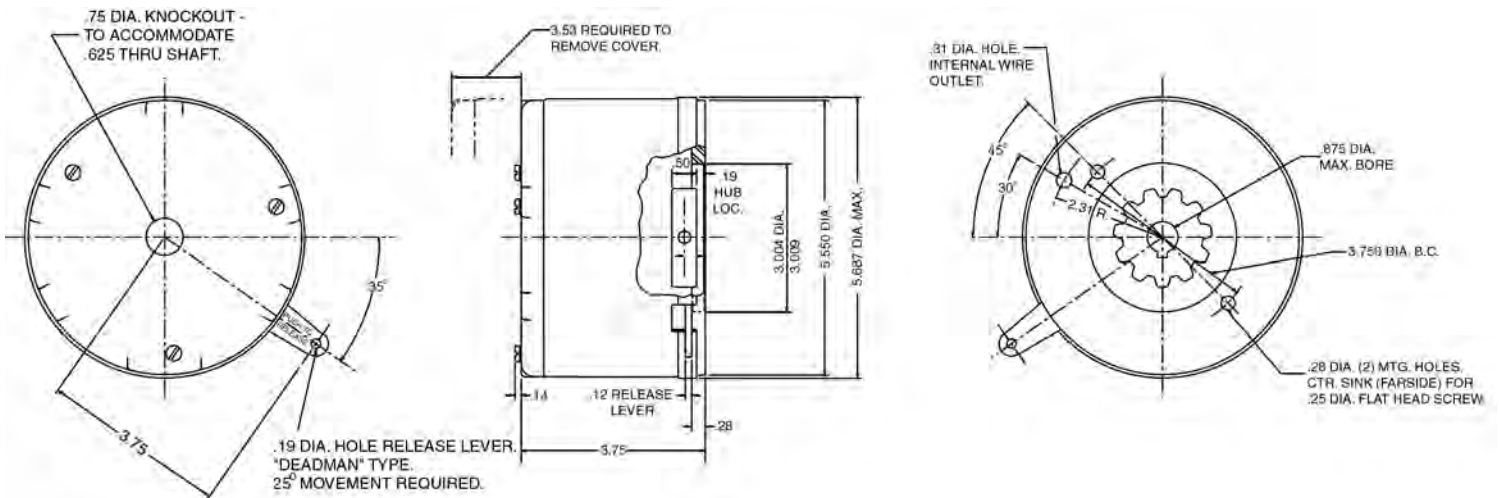
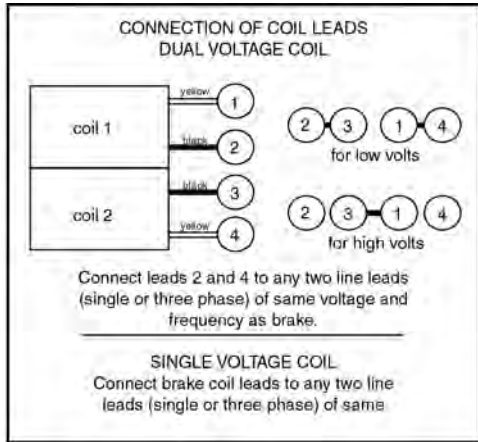

Figure 2. Dimensions of Brake
Figure 3. Wiring Diagram
## INSTALLATION (See Figures 2, 3, 4 & 5)
1. Remove hub (2) from brake and position on motor shaft with key per dimension shown in Figure 2. Stamped part number on hub should face away from motor. Tighten hub set screws to shaft with 6-8 lb. ft. torque.
2. Remove the three cover screws (3) and cover (4) and position brake over hub (2) on shaft. Bolt brake to motor flange with two 1/4" flat head screws. (NOTE: Be sure anti-rattle spring (5) does not rest in hub tooth space containing a set screw.)
3. Connect coil wire leads as indicated in Figure 3. Replace cover and three cover screws.